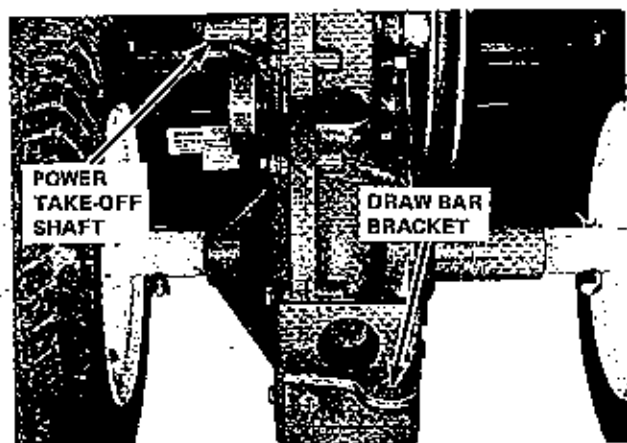

FIGURE 1
1. Remove the drawbar bracket bolts from the rear support plate on the transmission. Place the hitch plate from the kit between the drawbar bracket and the support with the notches up. Secure with the 3/8-16 x 1-1/2 inch capscrews, nuts and lockwashers provided. (See Figure 1)